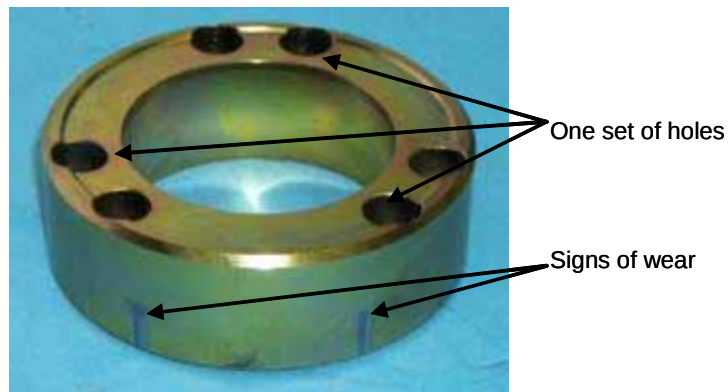

Figure 76. Inner ring.
7. Place the inner ring (figure 76) on the three springs. The inner ring has two sets of holes used to rotate the inner ring after it shows signs of wear. Rather than replace the inner ring, it can be rotated to the previously unused set of holes for extended life.